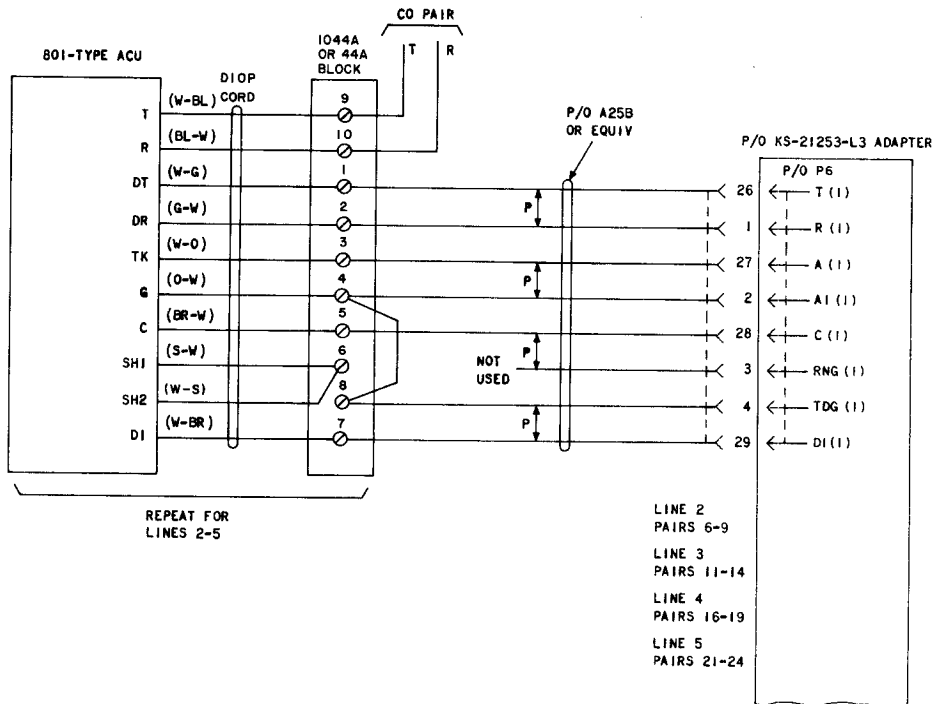

Fig. 12—ACU Wiring Using P6 for ACU Access
**4.09 Multiple Installations Using 801-Type Automatic Calling Unit (ACU):** Connections for an ACU can be made on the line side of the KS-21253-L3 adapter by using an A25B cable (or equivalent) and a 44A-type connecting block (Fig. 12).